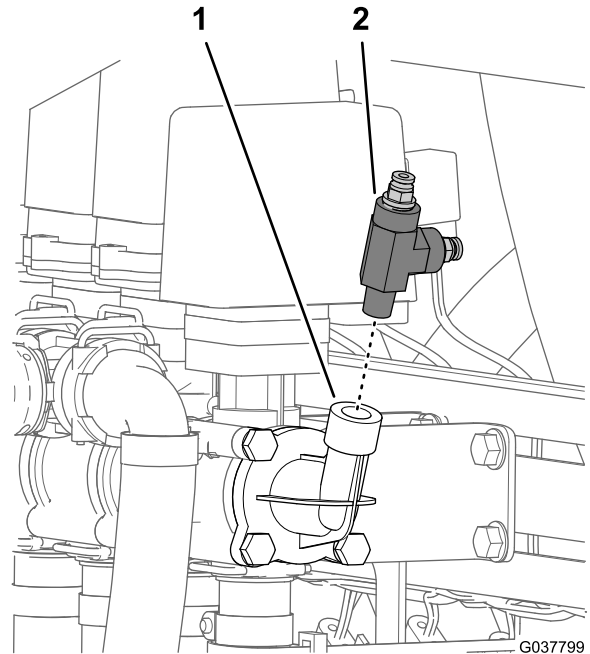

**Figure 11**
1. Press in the collars for the tube couplers in the T-fitting in the pressure port fitting (Figure 11 or Figure 12).
2. Remove the pressure-sense tube for the dash gauge from the tube coupler (Figure 11 or Figure 12).
3. Remove the pressure-sense tube for the spray gun pressure gauge or from the tube coupler (Figure 11 or Figure 12).